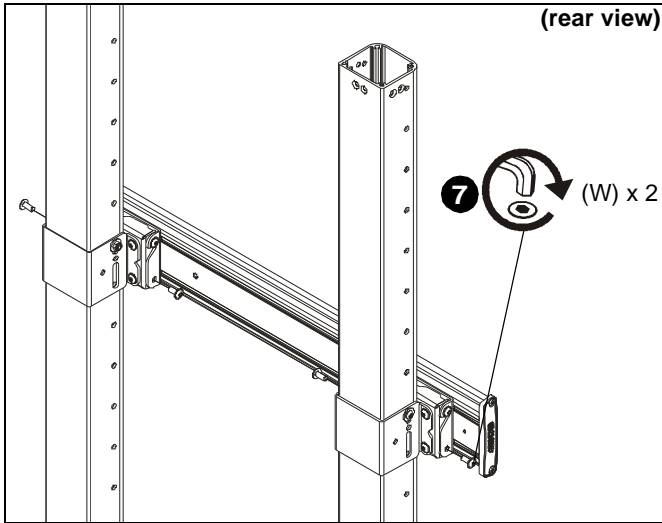

Figure 8
7. Install two 5/16-18 x 3/4" button head flange screws (W) into the lower holes on each quick connect base (Q) to secure rails to quick connect bases. (See Figure 8)
8. Tighten all 5/16-18 x 3/4" button head flange screws (W).